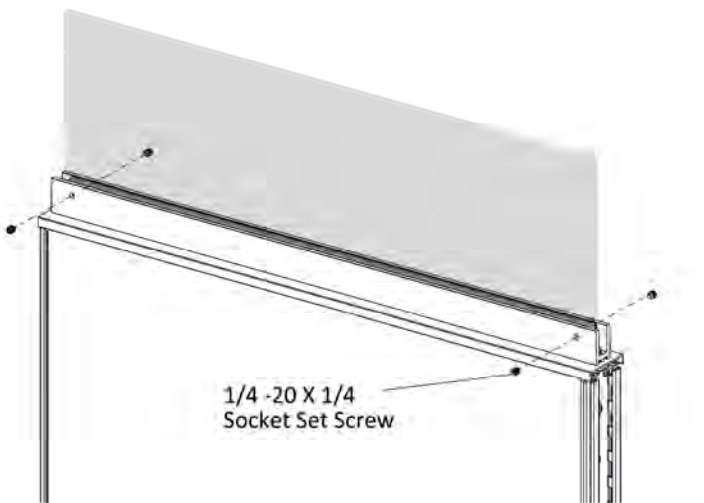

Figure 4
- Align and secure the glass/acrylic by inserting 1/4-20 X 1/4" Socket Set Screw through each of the holes on the side of the base extrusion using Allen Key driver, (Figure 4).